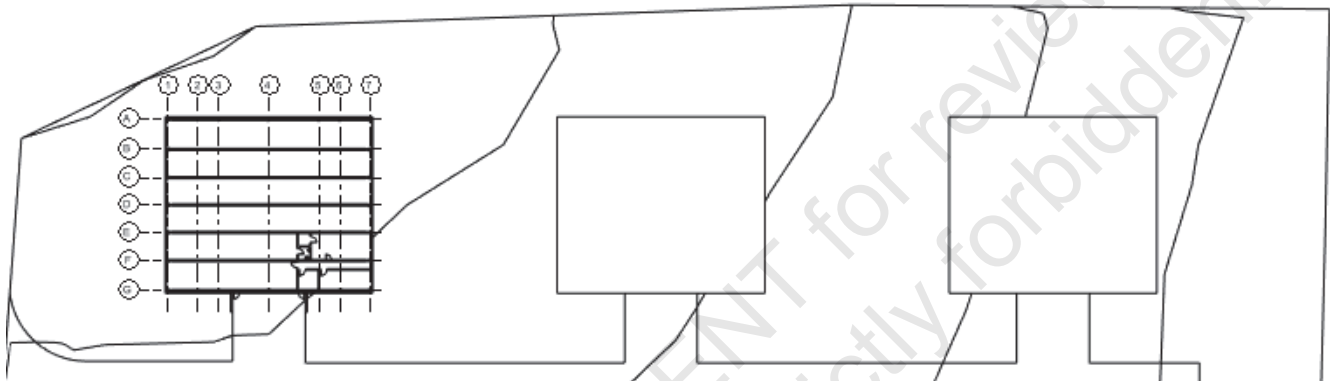

Figure 1-71
1. In the view, delete both links on Lot 2 and Lot 3, as shown in Figure 1-71.